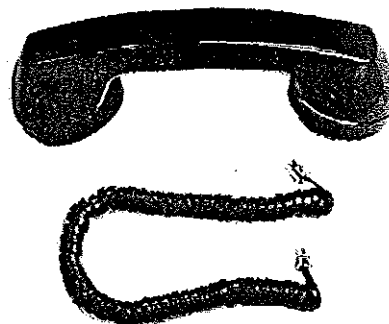

Fig. 13 - Standard Phone Handset
5.02 A Standard Phone Handset (figure 13) is available for monitoring messages and making live audio recordings. The Handset has the correct impedance (less than 1000 ohms) which is required to properly match the input circuits of the Digital Announcer. The Handset comes with a 3-foot coiled cord with RJ-11 modular handset plugs on both ends.